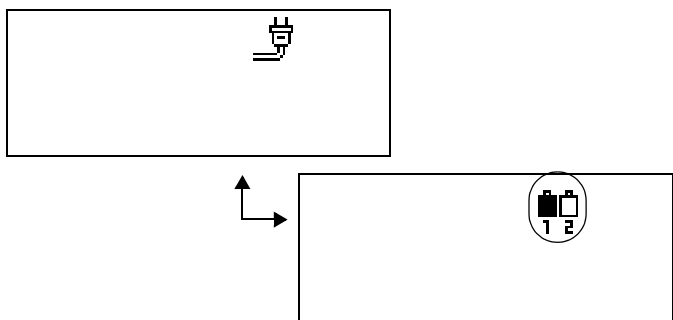

Figure 2-10. Display – Power Off, AC Adapter Connected, and a Bad Battery
- Power is off and AC adapter connected with bad battery (Figure 2-10):